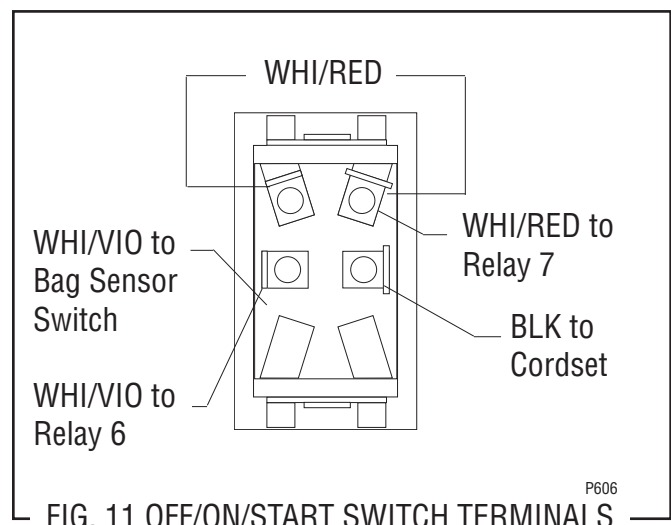

FIG. 11 OFF/ON/START SWITCH TERMINALS
4. Refer to Fig. 11 when reconnecting the wires.